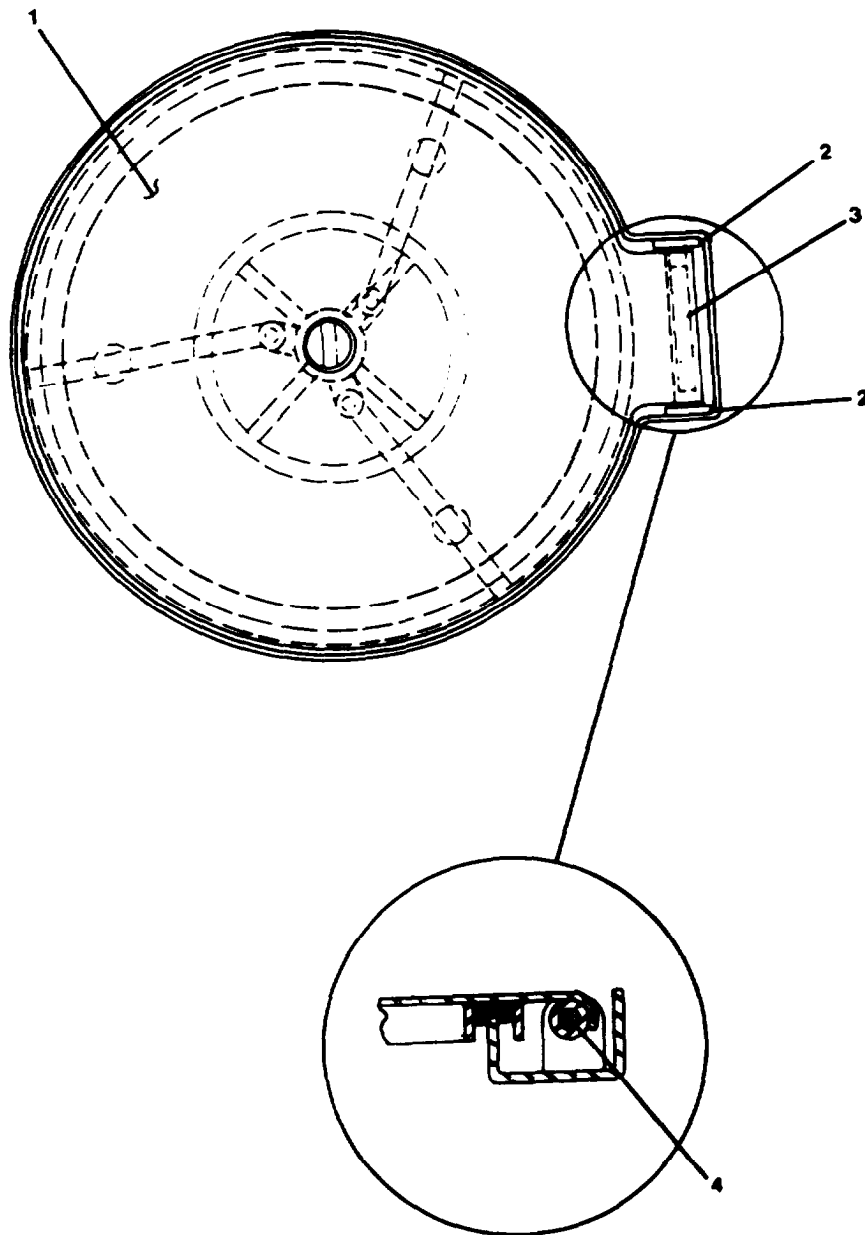

FIGURE 2-180. Replace Watertight Scuttle. Quick Action (Flush).
- a. Open scuttle (1, FIGURE 2-180).
- b. Remove cylindrical pin (4) from hinge pad.
- c. Remove flat washers (2) from hinge pad.
- d. Remove brass bushings (3) from scuttle (1).
- e. Remove scuttle (1) from closure.
- a. Place scuttle (1, FIGURE 2-180) in position on closure.
- b. Install brass bushings (3) on scuttle (1).
- c. Install flat washers (4) on hinge pad and align holes.